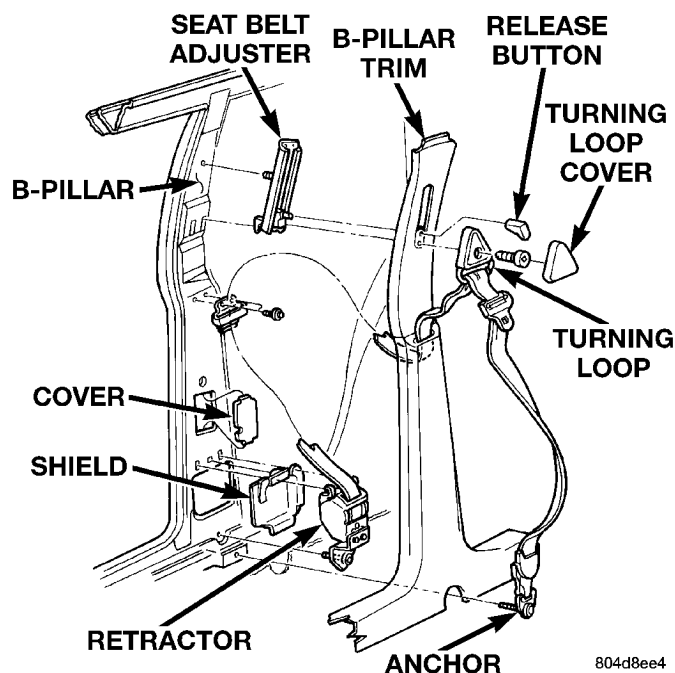

Fig. 47 Front Shoulder Belt
- (1) Unsnap turning loop cover.
- (2) Remove upper anchor bolt (Fig. 47).
- (3) Remove B-pillar trim panels.
- (4) Remove bolt attaching retractor to B-pillar.
- (5) Remove bolt attaching belt anchor to B-pillar.
- (6) Disconnect retractor wire harness connector.
- (7) Remove shoulder belt and retractor.